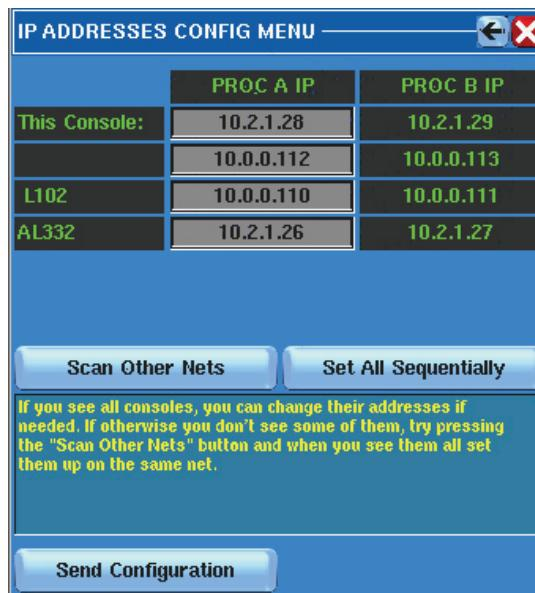

Figure 3.11.1-B
3.11.2 IP Address (Fig 3.11.1 -B)
3.11.3 MAC Address (Fig 3.11.1 -C)
3.11.4 TXRX Associated by Default (Fig 3.11.1 - D)